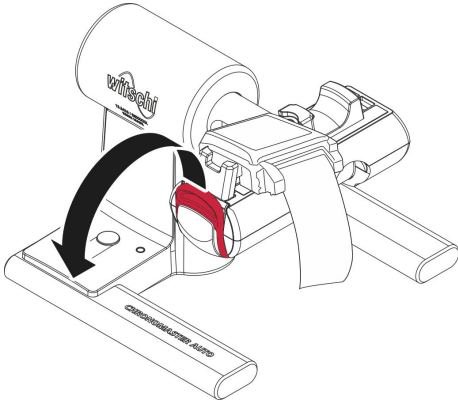
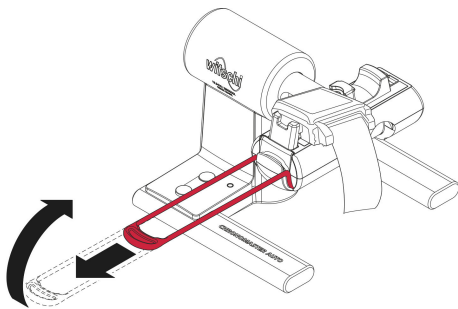
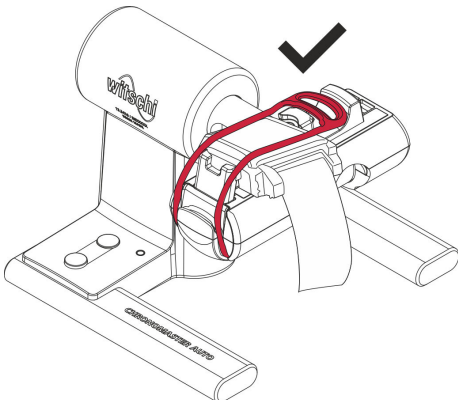

Fig. 10: Lifting the watch holder 1
Fig. 11: Lifting the watch holder 2
Fig. 12: Securing the watch holder
1. ➤ Place the watch on the microphone in the home position (DU).
2. ➤ Pull the watch holder outwards out of its rest position (Fig. 10), across the watch (Fig. 11), onto the slide and hook it in place (Fig. 12).